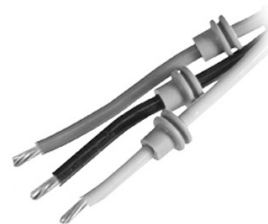

Figure 1
- d. Slide wire sealing grommet on to each wire with the smaller diameter of the sealing grommet facing the wire side that will be terminated. (See figure 1)